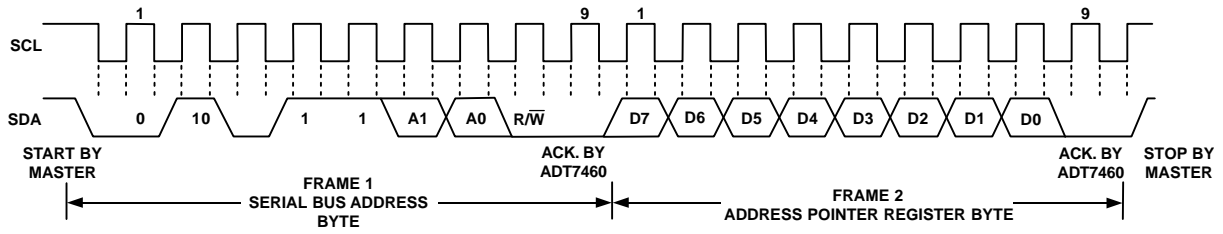
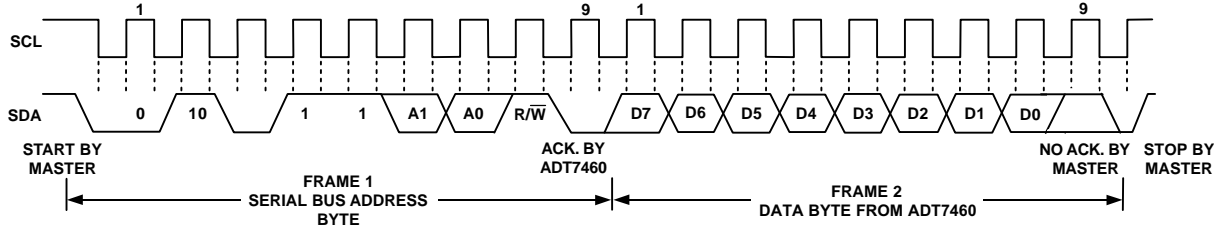

Figure 18. Writing to the Address Pointer Register Only
Figure 19. Reading Data from a Previously Selected Register
- ◆ If the ADT7460's address pointer register value is unknown or not the desired value, it is first necessary to set it to the correct value before data can be read from the desired data register. This is done by performing a write to the ADT7460 as before, but only the data byte containing the register address is sent because data is not to be written to the register. This is shown in Figure 18. A read operation is then performed, consisting of the serial bus address, R/W bit set to 1, followed by the data byte read from the data register. This is shown in Figure 19.
- ◆ If the address pointer register is known to be already at the desired address, data can be read from the corresponding data register without first writing to the address pointer register, so Figure 18 can be omitted.
In Figure 17 and Figure 19, the serial bus address is shown as the default value 01011(A1)(A0), where A1 and A0 are set by the address select mode function previously defined.